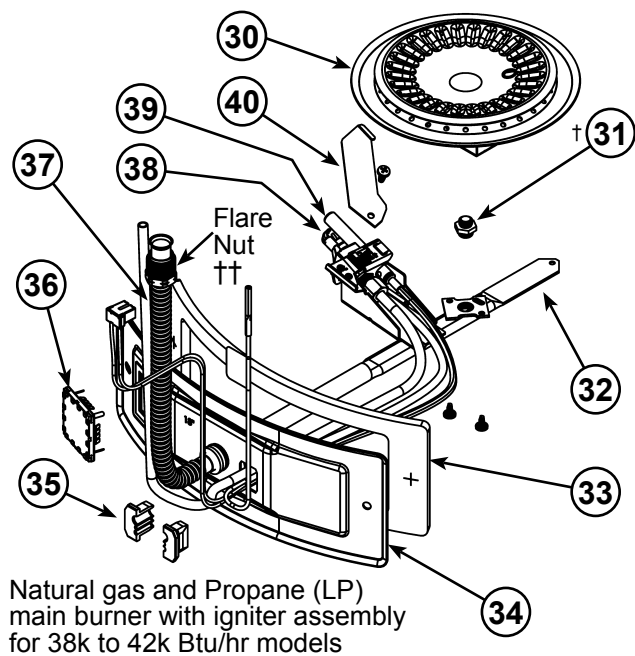
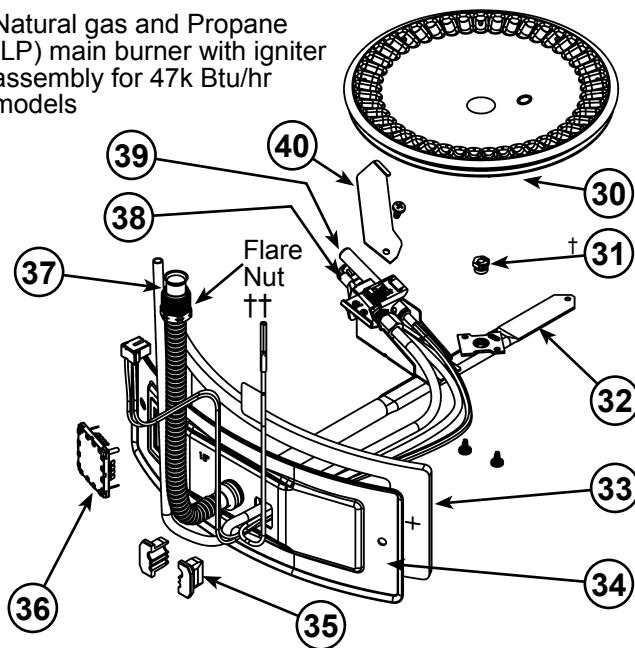

Figure 46
Figure 47
- 12 Manifold Door Assembly (behind outer door) (see Figure 3 & Figure 4) (see also **Figure 46 & Figure 47**)
- 15 Flexible Manifold Tube (see Figure 3 & Figure 4) (see also **Figure 46 & Figure 47**)
- 30 Sheet Metal Burner (see Figure 3 & Figure 4) (see also **Figure 46 & Figure 47**)
- 31 Gas Orifice (see Figure 3 & Figure 4) (see also **Figure 46 & Figure 47**)
- 32 Gas Manifold (see Figure 3 & Figure 4) (see also **Figure 46 & Figure 47**)
- 33 Manifold Door Gasket (see Figure 3 & Figure 4) (see also **Figure 46 & Figure 47**)
- 34 Manifold Door (see Figure 3 & Figure 4) (see also **Figure 46 & Figure 47**)
- 35 Two Piece Grommet With Clip (see Figure 3 & Figure 4) (see also **Figure 46 & Figure 47**)
- 36 Viewport (see Figure 3 & Figure 4) (see also **Figure 46 & Figure 47**)
- 37 Flexible Manifold Tube (see Figure 3 & Figure 4) (see also **Figure 46 & Figure 47**)
- 38 Pilot (see Figure 3 & Figure 4) (see also **Figure 46 & Figure 47**)
- 39 Thermopile (see Figure 3 & Figure 4) (see also **Figure 46 & Figure 47**)
- 40 Pilot Shield (see Figure 3 & Figure 4) (see also **Figure 46 & Figure 47**)